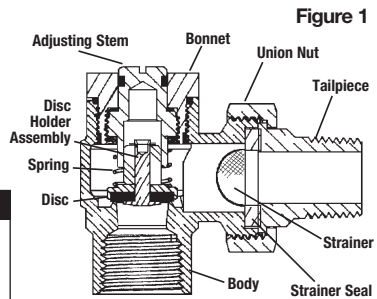

Figure 1
1. Disassemble union nut and tailpiece from Watts LFCS check stop valve. (Figure 1)